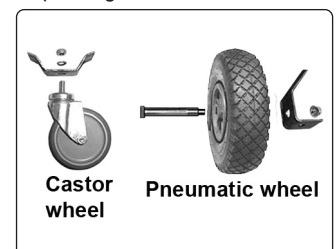

fig.1
**4.1.1.** Assemble the wheels and swivel castor using the nuts, bolts and washers supplied (fig 1).
**A:** Replace air filter (figs 1 & 4).